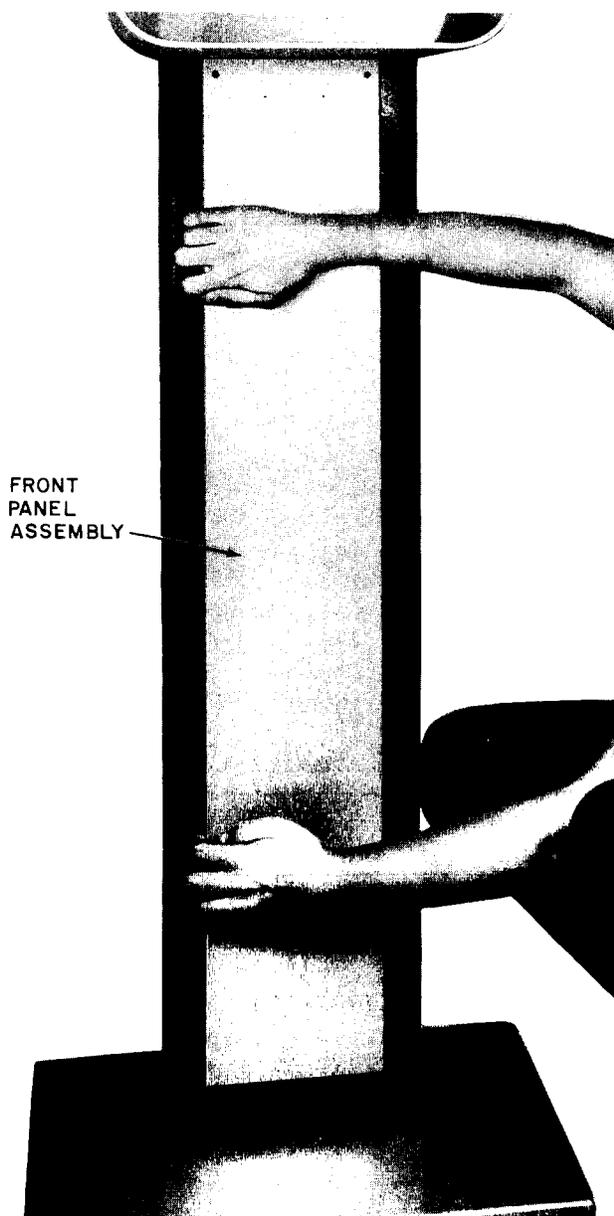

Fig. 22—Installing or Removing Front Panel Assembly on Post or Post-Base
- (a) Using a KS-19192, List 1 wrench, remove the two flat head security screws from the front panel. Remove panel as follows (Fig. 22).
(a) Using a KS-19192, List 1 wrench, remove the two flathead security screws from the front panel. Remove panel as follows (Fig. 22).
(a) Using a KS-19192, List 1 Wrench, remove the two flathead security screws from the front panel. Remove the panel as follows (Fig. 22).
- (a) Using a KS-19192, List 1 wrench, remove the two flathead security screws from the front panel. Remove the panel as follows (Fig. 22).
- (1) Brace knee against right side of post, as viewed from front.
- (2) Place both hands on opposite side of panel.
- (3) Pull top and bottom of panel simultaneously toward right side of post.
- (4) When the locking flange on the left side of panel clears the post, pivot the left side away from the post.
- (5) Pull the panel to the left and away from the post.
- (6) To install panel, use reverse procedure.